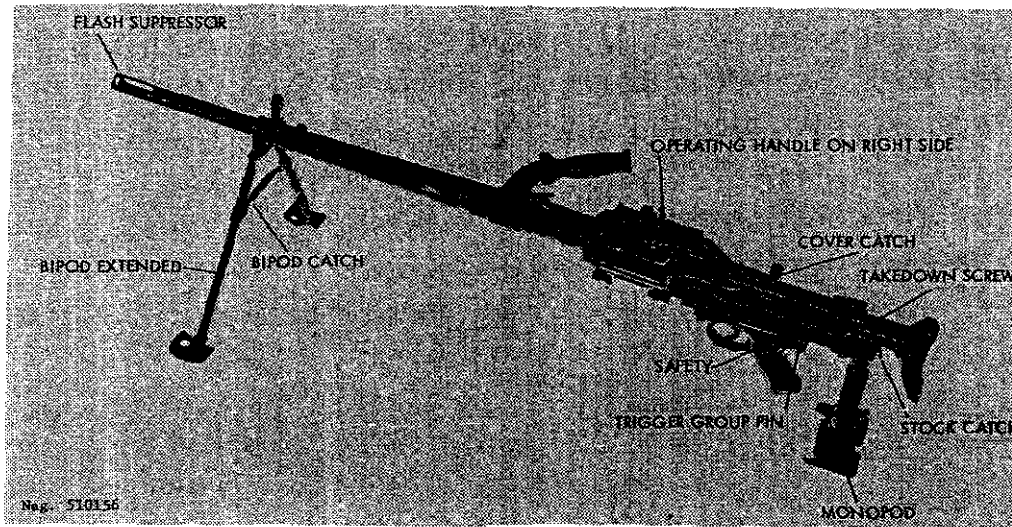
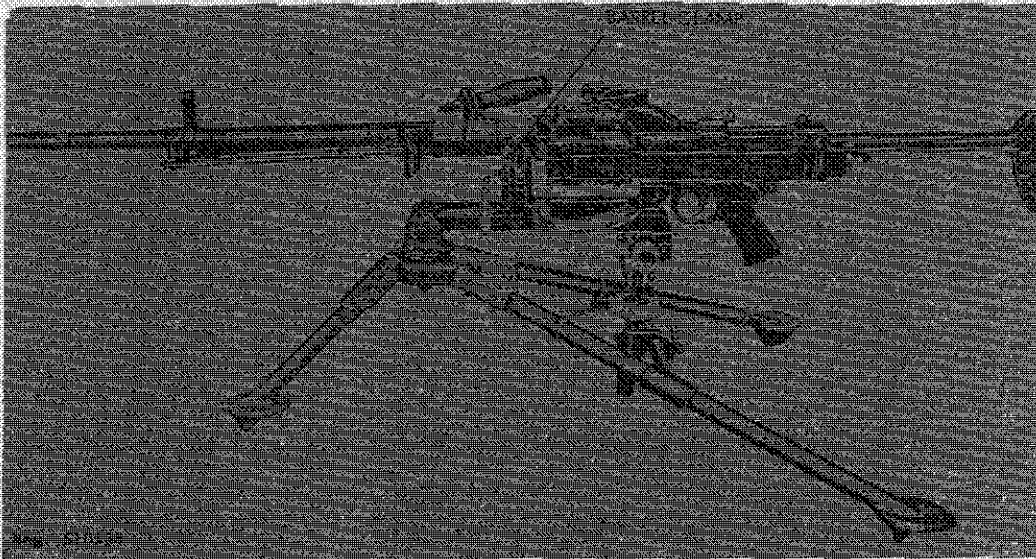

Figure 157. French AA-52 light machinegun.
Figure 159. AA-52 heavy machinegun on tripod.
a. The AA-52 machinegun (fig 157 and 158) is the standard general-purpose machinegun of the French Army. The gun can be readily fitted with one of two different weight barrels, fired from a bipod (fig 157) or a light tripod (fig 159), and fired
b. If the weapon is bipod equipped, unsnap the catch (fig 157) and swing the bipod down. When it is at a right angle to the barrel, spread the bipod legs. If the gun is to be used on a tripod, mate the front recess of the trigger guard with the mount adaptor, then close the barrel clamp (fig 159) and tighten. Press the catch (fig 157) and extend the stock if desired.
c. Pull the operating handle (fig 158) fully rearward, then thrust it fully forward. Press the safety (fig 157) to the left (safe). Press the cover catch (fig 157) forward and open the cover.
- a. Clear the gun (para 208f). Press the cover catch (fig 157) forward and open the feed cover.
- b. Unscrew the takedown screw (fig 157) at the left rear of the receiver and remove it. CAUTION: Press down on top of the butt while removing the takedown pin. Ease the butt stock upward and remove it. Pull out the driving spring and guide.
- d. Remove the trigger group pin (fig 157) after depressing its lock, and pull the trigger group out of the receiver.